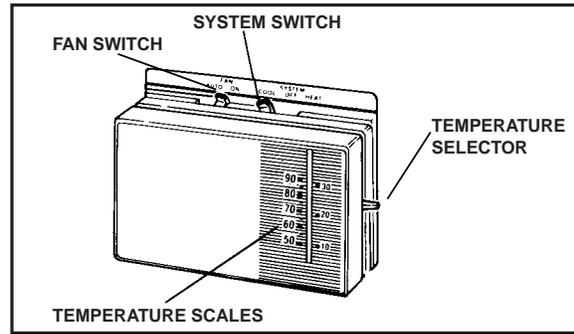

Figure 1. Typical Thermostat
1. Set the thermostat system switch to COOL or AUTO and the thermostat fan switch to AUTO. (See Figure 1)
1. Set the thermostat system switch to HEAT or AUTO and the thermostat fan switch to AUTO. (See Figure 1)
Set the thermostat system switch to OFF and the thermostat fan switch to AUTO. (See Figure 1). The system will not operate, regardless of the thermostat temperature setting.
Set the thermostat fan switch to ON (See Figure 1). The indoor blower will start imme-